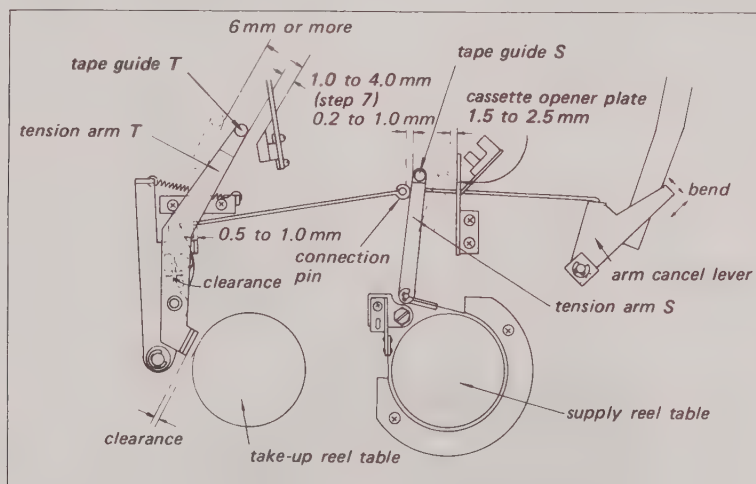

Fig. 5-18. Tension regulator adjustment
7. Press the PLAY button and check for 0.2 to 1.0 mm clearance between Tension Arm S and the pin in the linkage of the Arm Cancel Lever. See Fig. 5-18. Adjust the tang of the Arm Cancel Lever to the left or right to obtain the correct clearance.